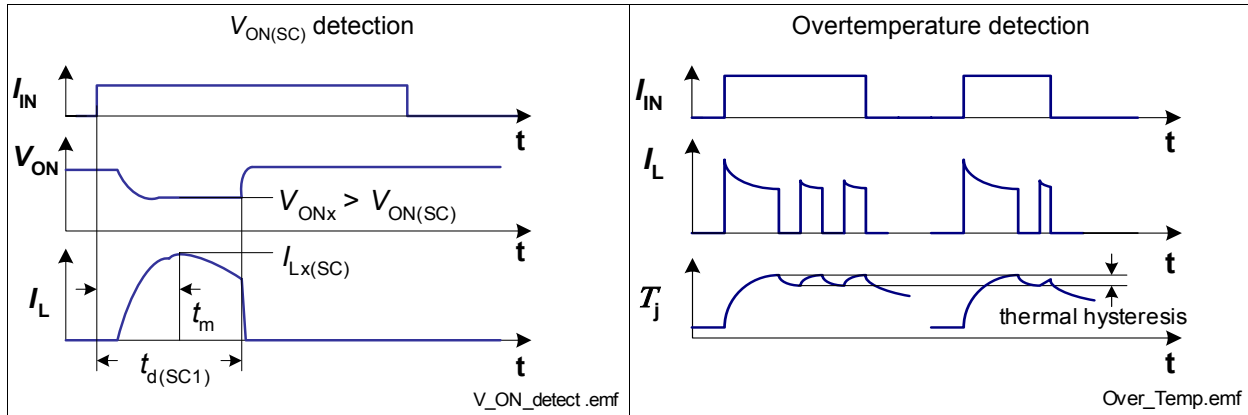
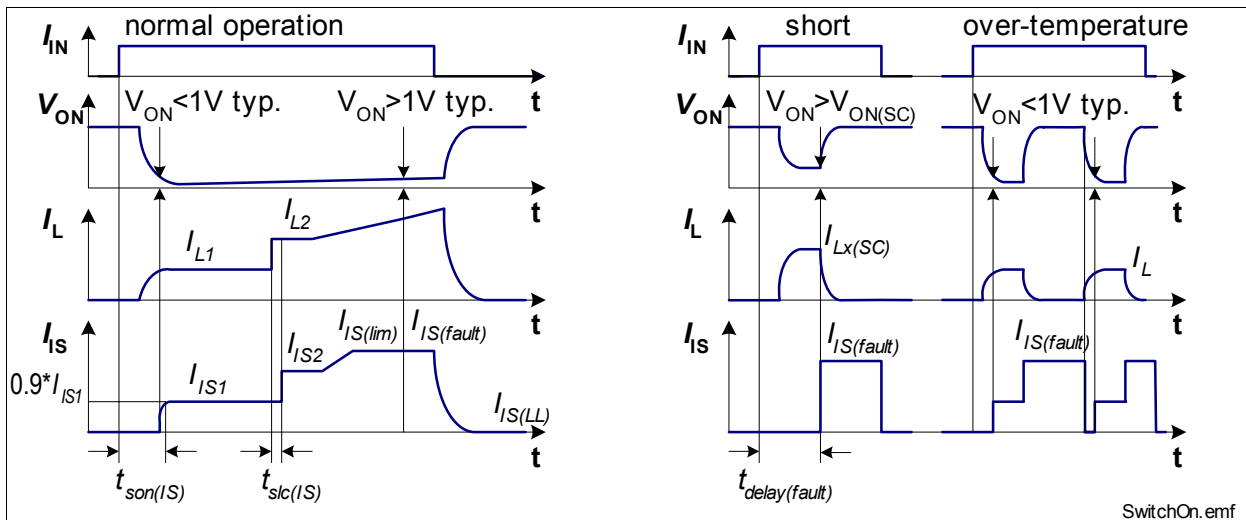

Figure 12 Overload Behavior
Figure 19 Timing of Diagnosis Signal in ON-state
In the event that either the short circuit detection via  $V_{ON(SC)}$  is not activated or that the on chip temperature sensor senses overtemperature before the blanking time  $t_{d(SC1)}$  expired, the device switches off resulting from overtemperature detection. After cooling down with thermal hysteresis, the device switches on again. The device will react as during normal switch on triggered by the input signal. Please refer to **Figure 12** and **Figure 19** for details.
- 2) Short circuit current limit for max. duration of  $t_{d(SC1)}$ , prior to shutdown, see also Figure 12.
Details about timings between the diagnosis signal  $I_{IS}$ , the forward voltage drop  $V_{ON}$  and the load current  $I_L$  in ON-state can be found in Figure 19.